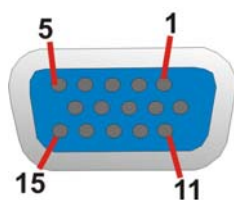

Figure 3-30: VGA Connector
- CN Pinouts:** See **Figure 3-30** and **Table 3-31**